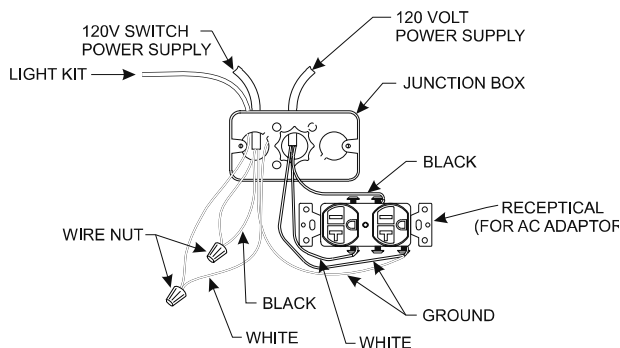

Figure 27
4. Run 14/2 Nm-B with ground or 12/2 Nm-B with ground wire through the electrical access panel into the Junction box. Secure wiring with the wire connector as shown. Attach the black wire to the receptacle, and the white wires to the receptacle as shown in **Figure 27**. Secure the incoming ground wire and green receptacle ground wires under the green ground screw provided in the junction box. **NOTICE:** If an LK5 Accent Light Kit is to be installed, a separate 120V line will be needed to connect the light kit wiring directly to a wall switch. **See Figure 27.**
5. If installing the LK5 Accent Light Kit, then remove the 7/8" diameter knockout in the side of the junction box, install the 7/8" diameter protective grommet, and connect the wiring with wire nuts as shown in **Figure 27**.